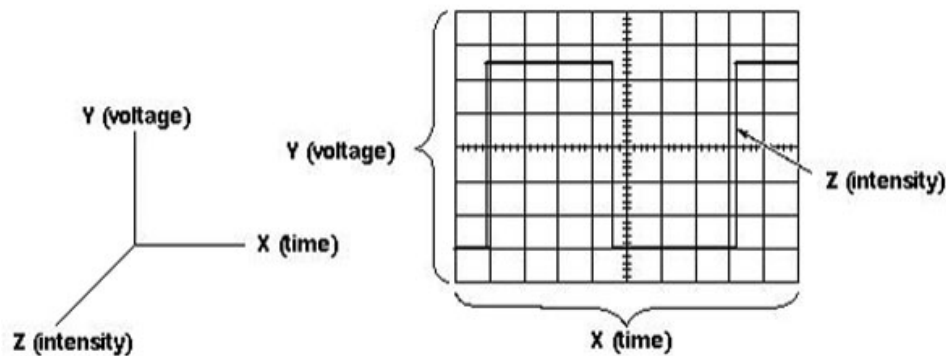

Figure 1-23. Oscilloscope graph.
In most applications, the graph (fig. 1-23) shows how signals change over time. The vertical (Y) axis represents voltage and the horizontal (X) axis represents time. The intensity or brightness of the display is sometimes called the Z axis.